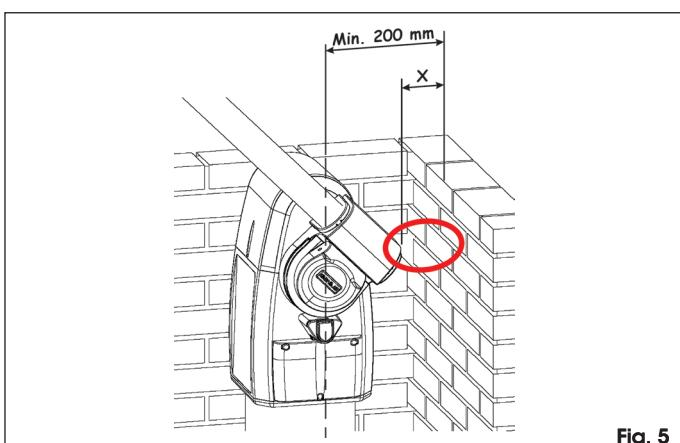

Fig. 5
- check if the minimum manoeuvring spaces, as shown in Fig. 5, are respected
If dimension "X", indicated in Fig.5, is less than 500 mm, the indicated zone MUST BE protected by a protection device conforming to standard UNI EN 12978.